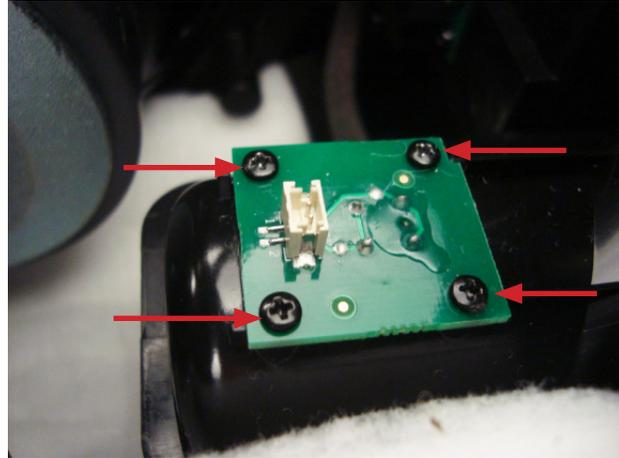

Figure 34
11.4 Remove the four screws indicated by the red arrows in figure 34 and lift out the pole switch PCB assy.